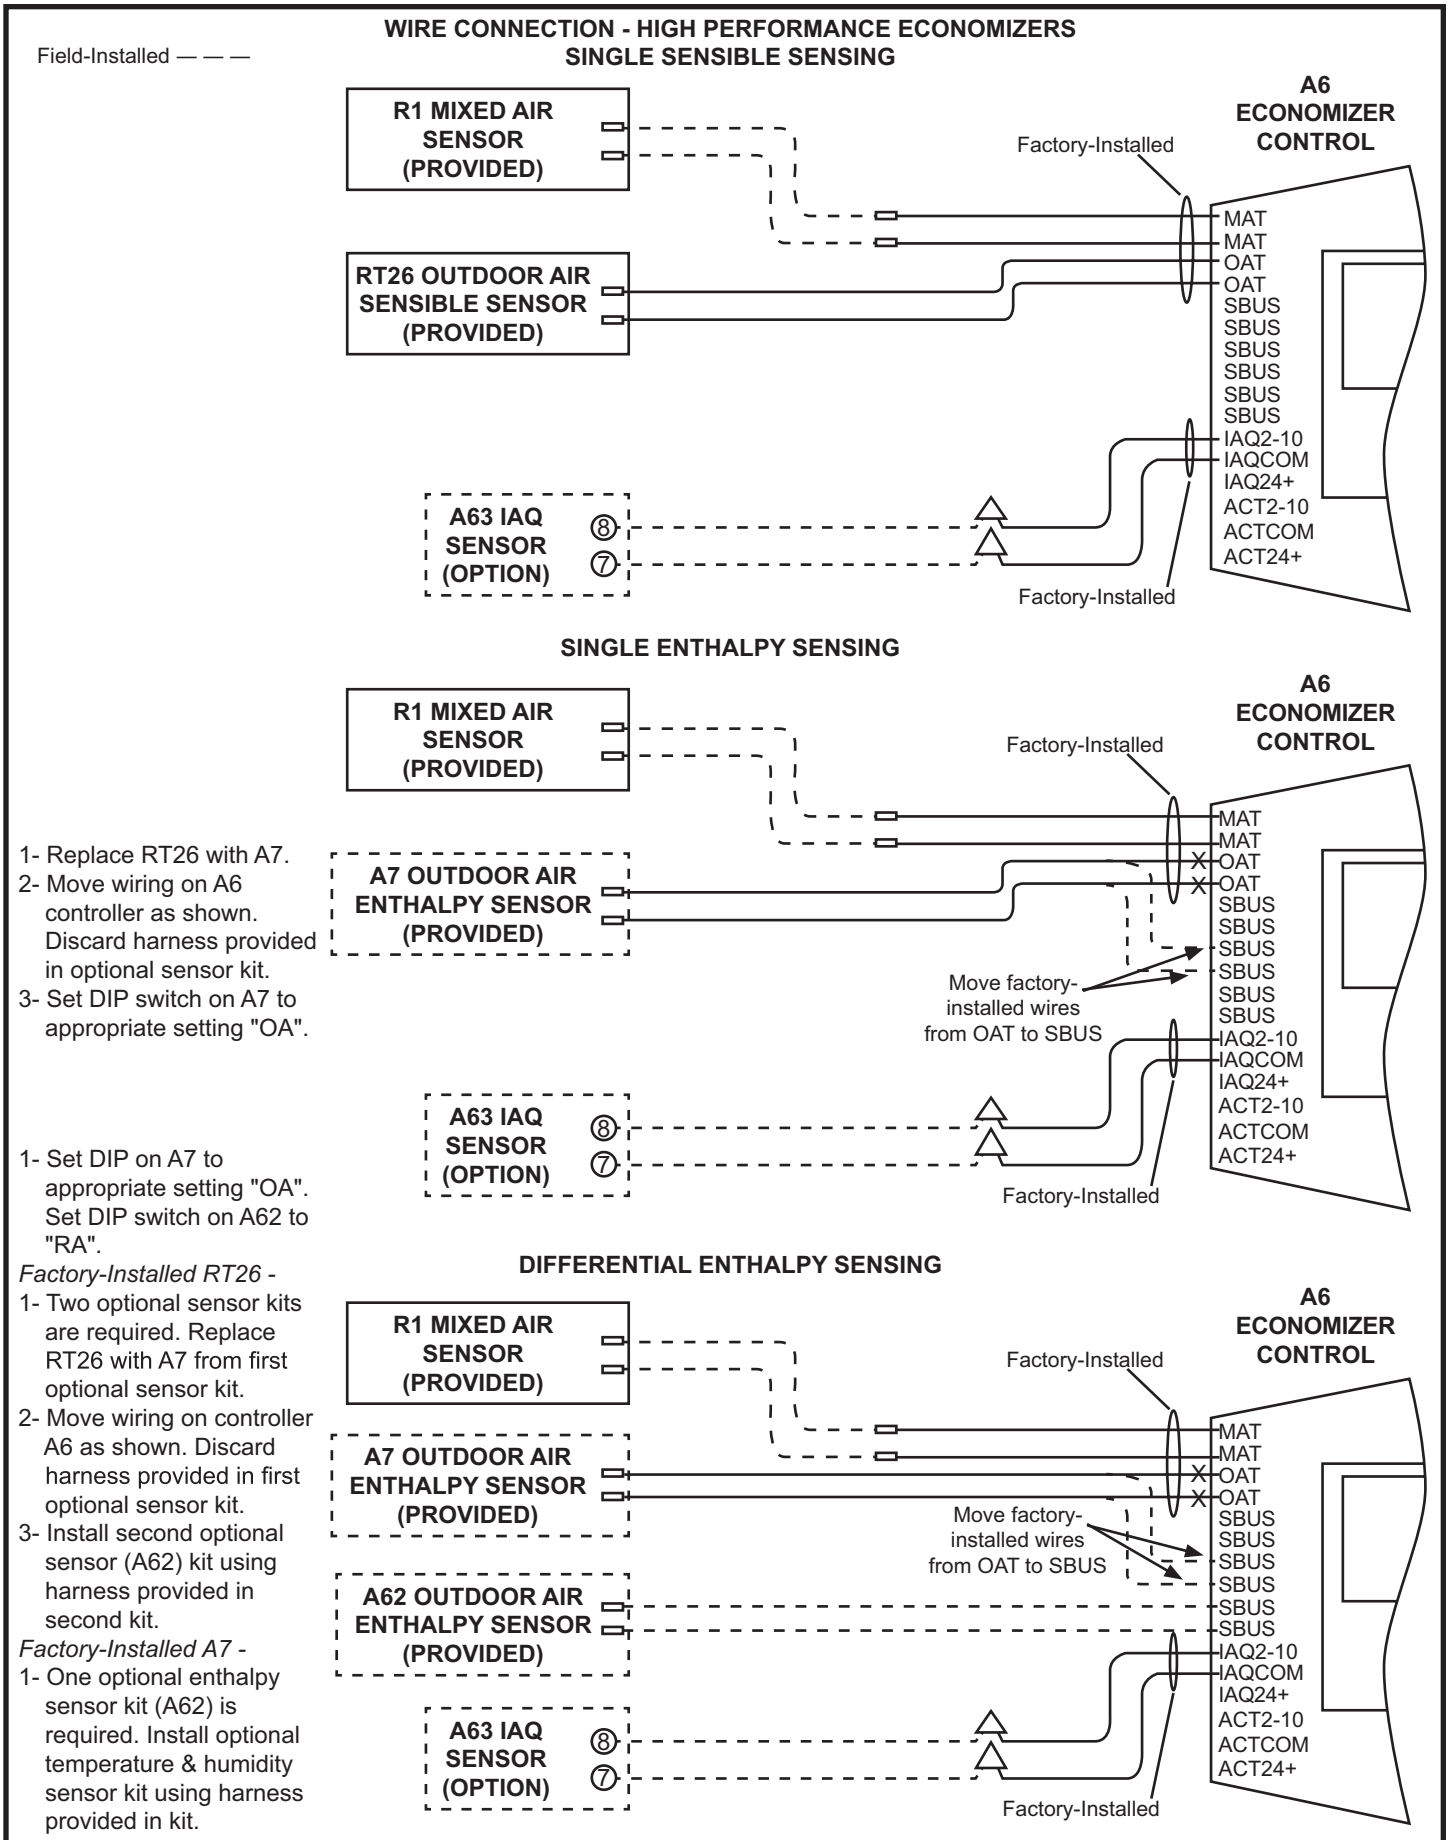

Figure 9
For proper operation, the IAQ sensor must provide a 2-10VDC, 100 ohm impedance signal. Connect sensors to the green IAQ leads provided on the economizer control module in the filter section as shown in Figure 9.
6. Connect any optional sensors as shown in Fig. 9.